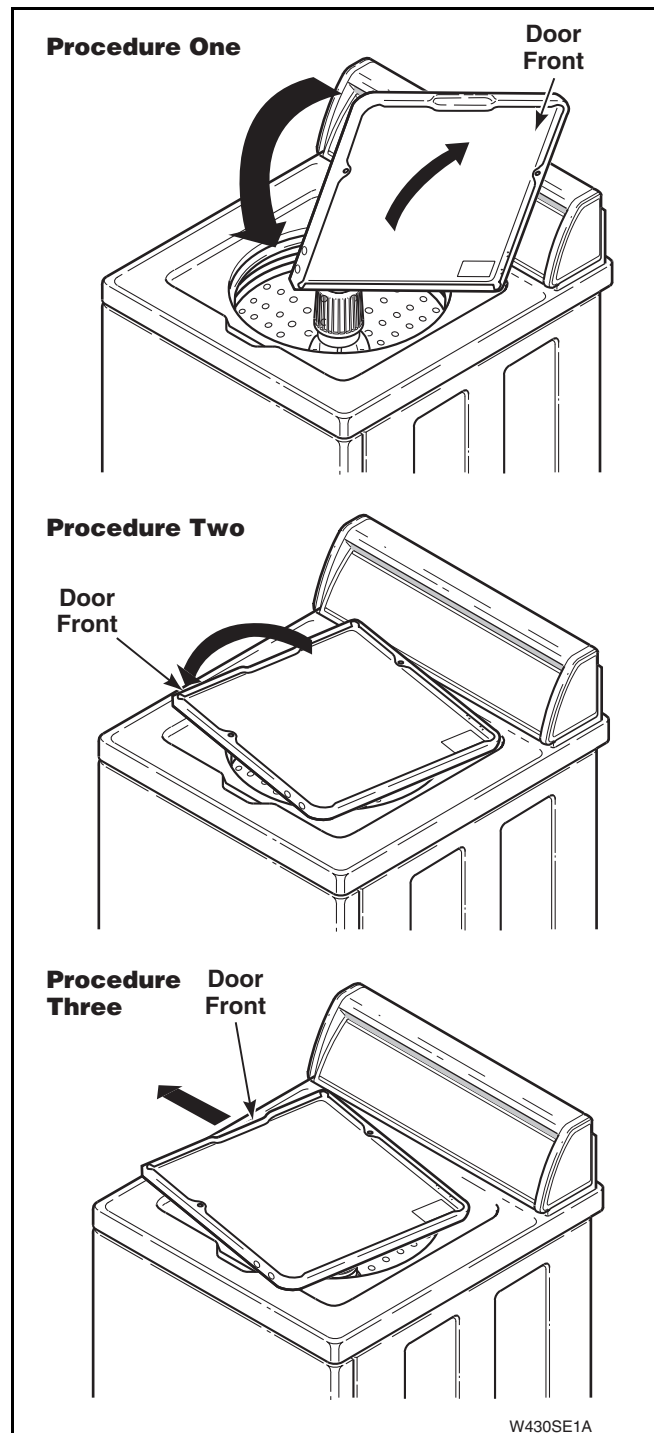

Figure 19
- Raise loading door to a nearly vertical position, to disengage loading door from loading door clip, swing left side of door toward front of washer. Refer to *Figure 19, procedure one*.
- Rotate loading door so door is upside down. Refer to *Figure 19, procedure two*.
- Carefully remove loading door, right hinge and bushing from cabinet top. Refer to *Figure 19, procedure three*.